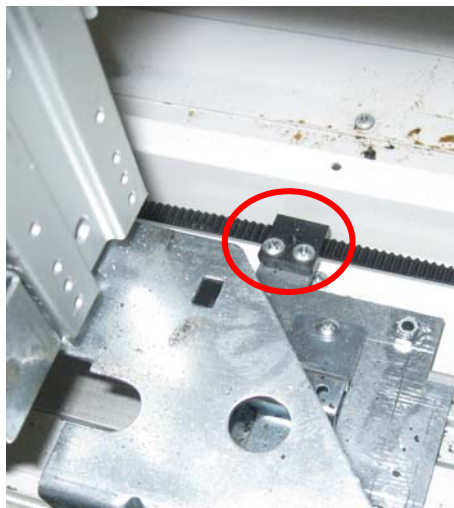

Figure 2
2. Locate and loosen the screws on the belt clamp on the lower X Carriage (shown in figure 2).
- a. Tighten the lower X carriage belt clamp (figure 2); making sure that the vertical alignment is correct before tightening.